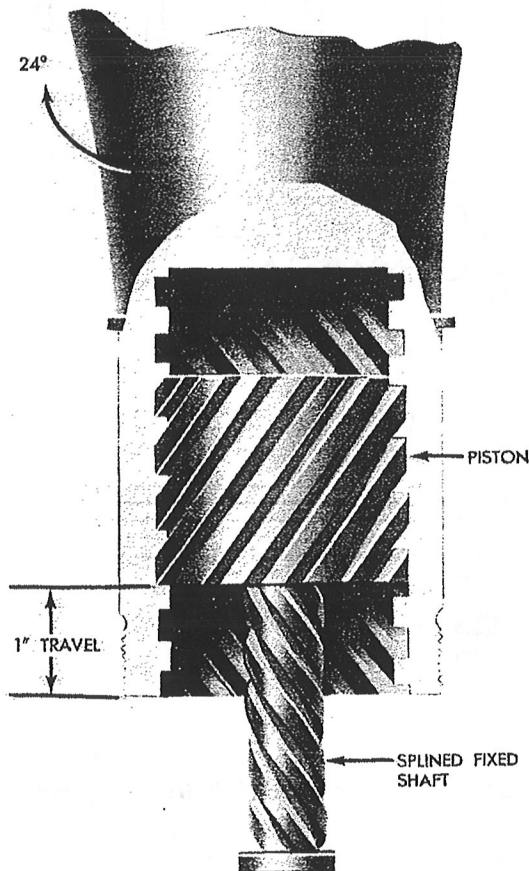

Figure 31—Schematic View of Torque Unit
(2) The torque piston with internal and external helical splines is mounted between the externally splined fixed spline and the internally splined torque cylinder which is connected directly to the blade. The application of hydraulic pressure to either side of the piston will give it axial (up or down) movement along the fixed spline. The combination of the helical spline arrangement between the fixed spline and the piston, and between the piston and the cylinder results in a change of blade angle when the piston is moved.
(3) If, for example, a helically splined piston was arranged to slide along a fixed helical splined shaft, as illustrated in figure 31, it would be given an initial twist of approximately 12 degrees with each lengthwise inch of piston travel. The combination of meshed helical splines between the piston and blade will give the blade an additional turn of 12 degrees, or a total of 24 degrees angle change for each lengthwise inch of piston travel along the fixed spline. (See figure 31.)